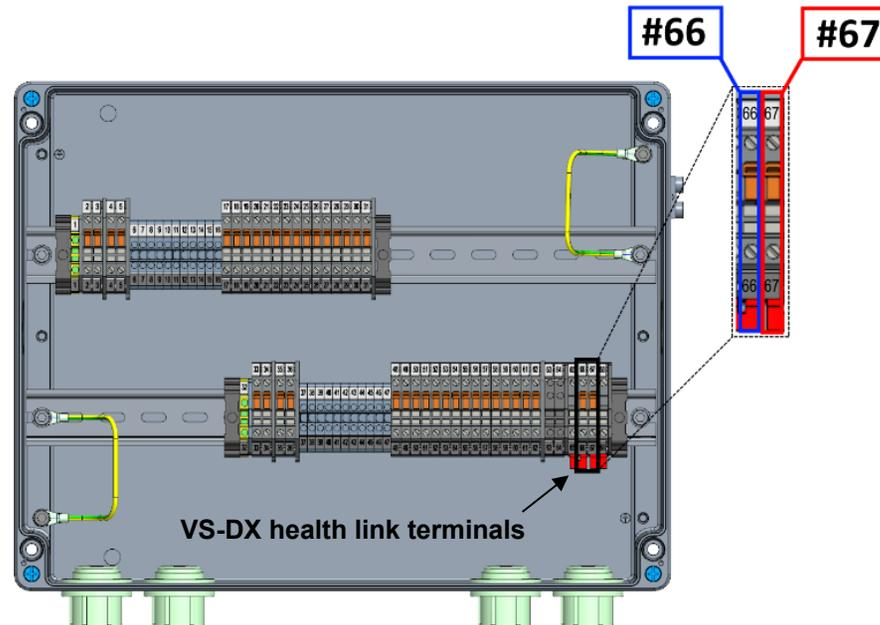

Figure 2-77. Health Link Terminals Inside VS-DX J-Box
64. Close knife terminal **[HEALTH LINK]** towards the other operating unit (**VariStroke A terminal # 67**) or (**VariStroke B terminal # 66**) (Figure 2-77).